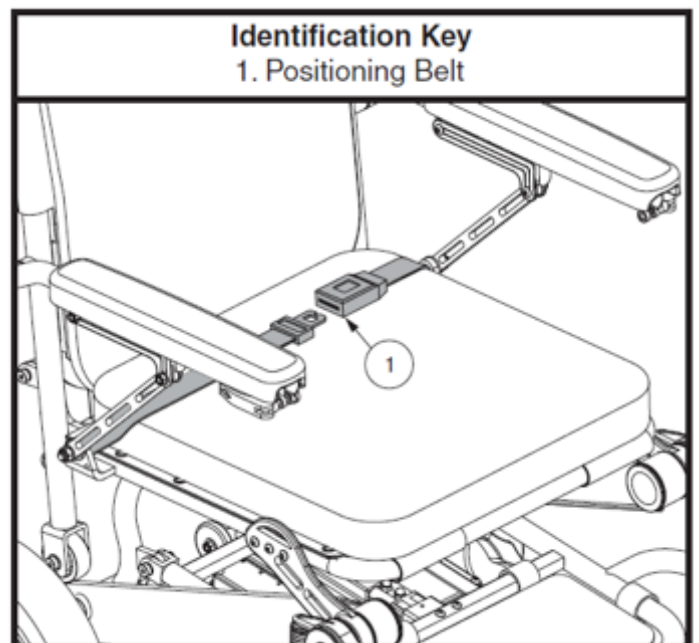

Figure 12. Positioning Belt Adjustment
See figure 12. The positioning belt is designed to support the operator so that he/she does not slide down or forward in the seat. The positioning belt is not designed for use as a restraining device.
1. Once seated, insert the metal tab on one side of the belt into the plastic housing on the opposite side until you hear a click. **See figure 12.**